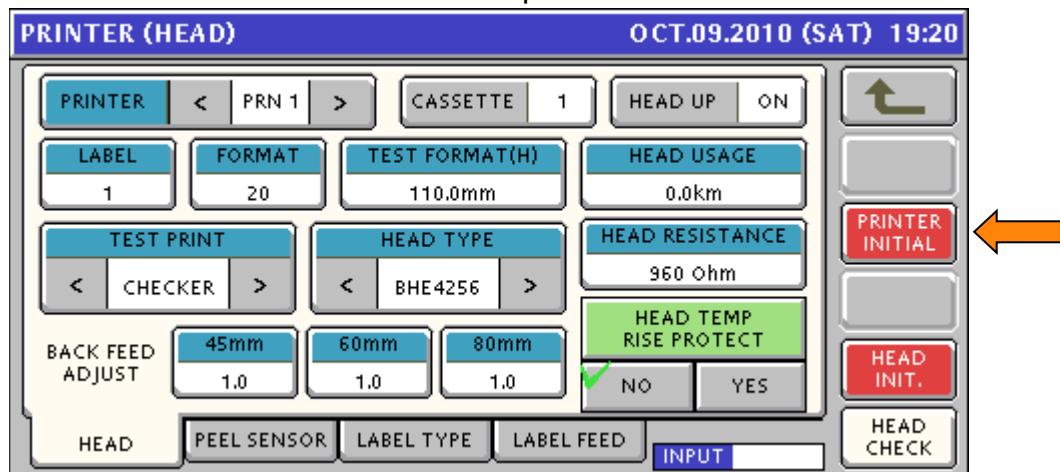

Figure 69. Printer – Head Section Settings
- If the values are known enter them as needed. If not, set the **HEAD RESISTANCE**. See Figure 69.